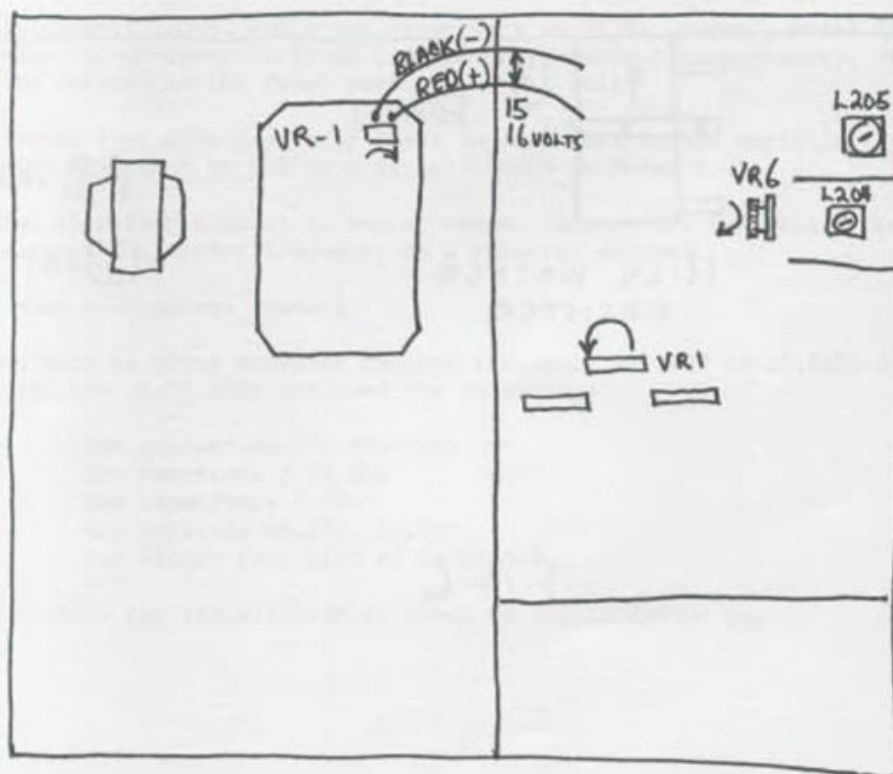

FIG. 5
- 1.1 Re-tune the coils, L204 and L205 and turn VR6 shown as fig. 5. Then you can get 5 to 6W.
Turn VR1 shown as fig. 5.